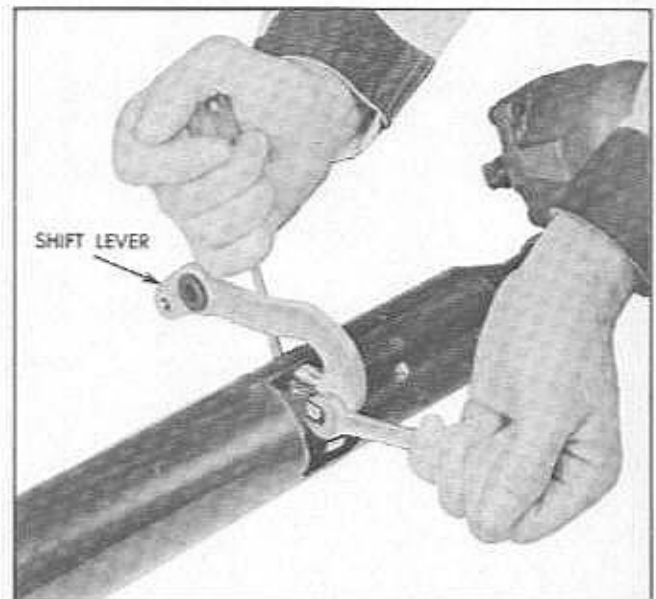

Fig. 7-9 Removing Lower Shift Lever
14. Remove shift lever from tube yoke by loosening screw about $\frac{1}{8}$ " with an open end wrench and moving lever down and out. Gearshift tube can be held downward by means of screwdriver inserted through selector lever opening (Fig. 7-9). Attaching screw
3. With screw started in gearshift lower lever, position lever against bottom of lower lever drive plate engaging driving lugs and extrusion at screw boss and tighten cap screw securely. Shift tube can be held down by means of screwdriver inserted through selector lever opening (Fig. 7-9).